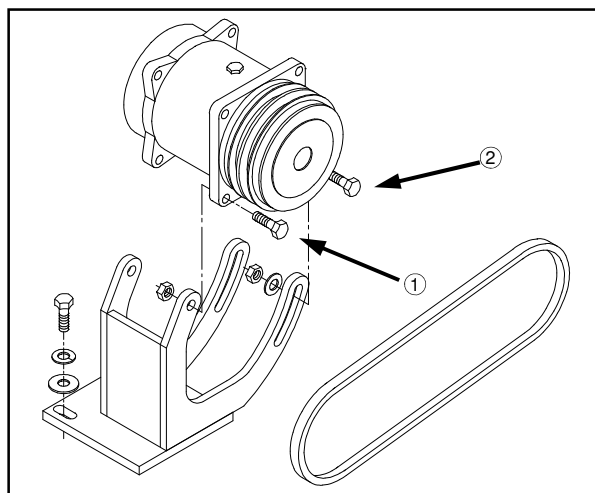

FIG 73-4
To tighten air conditioner compressor belt, loosen the two pivot bolts (fig. 73-4, item 1) and the two slide bolts (fig. 8.44, item 2). Using a suitable prying tool, adjust tension on belt to desired tautness. While maintaining tension, re-tighten all four bolts. Inspect belt every 250 hours.